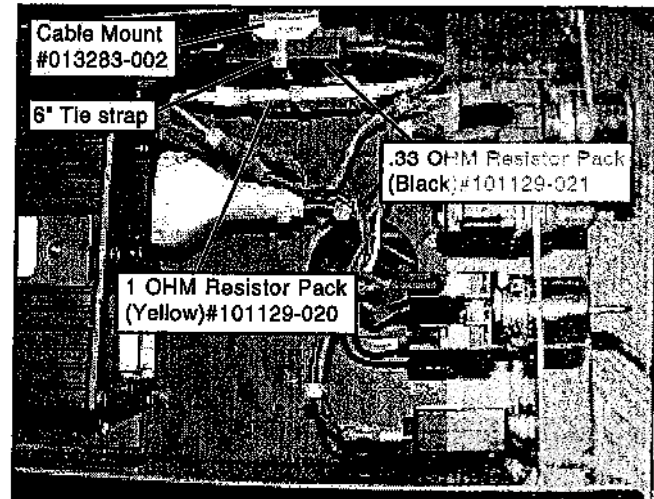

Figure 2
4. Install the 1 OHM Resistor Pack (Yellow, #101129-020) and the .33 OHM Resistor Pack (Black, #101129-021) using the Cable Mounts (#013283-002) and 6" Tie wraps as shown in Figure 2.